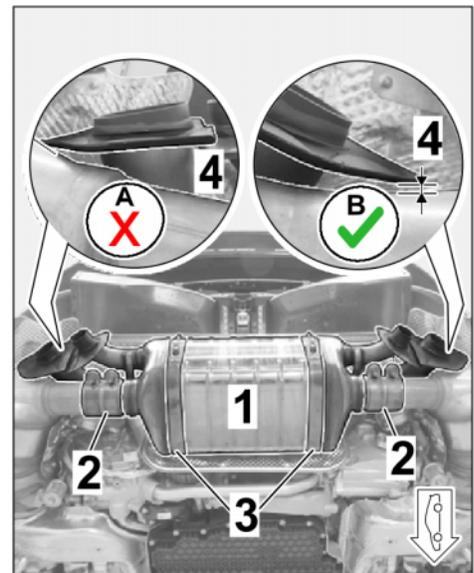

Figure 7
- 2.4.5 Position new silencer for sports exhaust system on the muffler holder and pre-install hand-tight with new restraining straps (2 pc(s)) (⇒ Figure 7).
- 2.4.6 Check whether the protective plate is touching the catalytic converter (⇒ Figure 7-Magnifiers-).
- If YES (⇒ Figure 7-A-):
Correct the position of the silencer or bend the cover away if necessary so that there is a gap of at least 3–5 mm (⇒ Figure 7-B-)
- If NO (⇒ Figure 7-B-): continue with the next step.